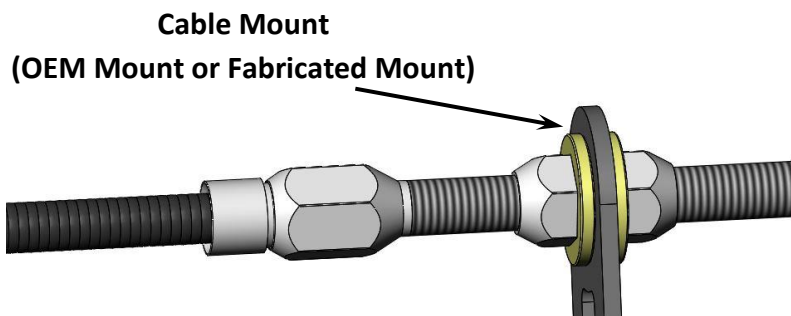

Figure 2 – Cable Attaching Point
5. If the cable was removed from the vehicle to cut, reinstall the cable into the caliper (as done previously in Step 2) and place the cable adjuster into the factory attaching point or the fabricated bracket. Snug the nuts at this point as this may be used later for final adjustment. Refer to Figure 2 below for reference.